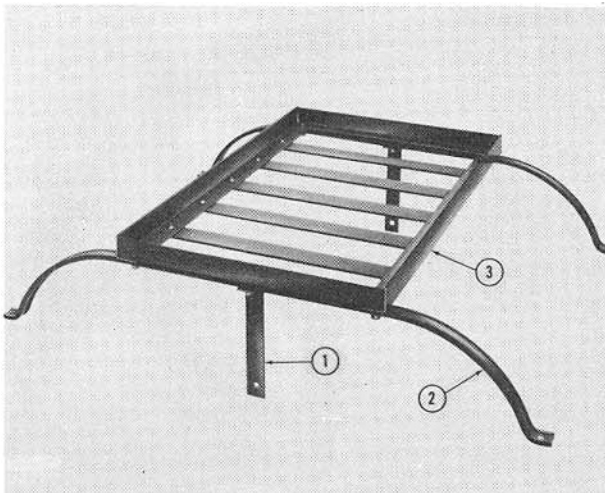

Figure 6
3. Bolt the weight box support braces (1), Figure 6, and the weight box supports (2) to the weight box (3), as shown.